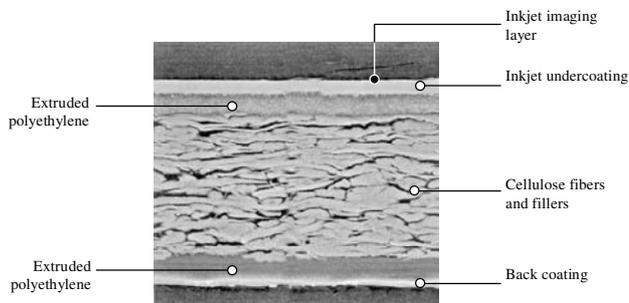

Figure 1. Cross section of an inkjet photographic paper
*IJ photo papers* (Fig. 1) consist of a photo base (paper with an extruded polyethylene layer on both sides, which gives them their gloss appearance) and a complex multi-layer coating. These coatings can be **swellable** (they inflate when water is absorbed, such as the soft contact lens), **micro-porous** (carrier is absorbed through the coating *holes*, similar to water in sand) or **hybrid**.